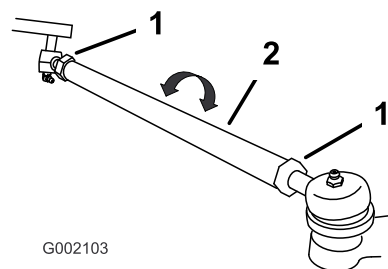

Figure 45
7. If the measurement does not fall within 0 to 6 mm (0 to 1/4 inch), loosen the jam nuts at both ends of the tie rods (Figure 45).